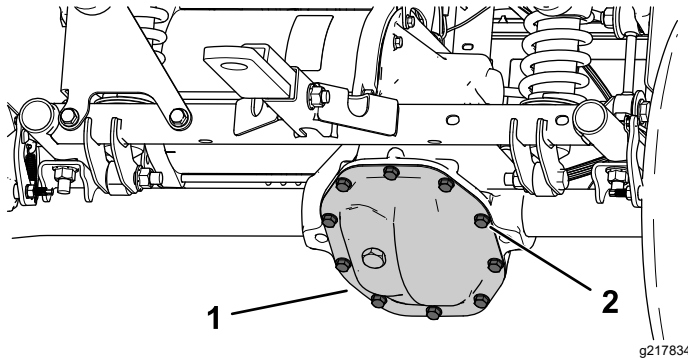

Figure 53
1. Align a drain pan under the transaxle cover (Figure 53).
2. Remove the bolts from the transaxle cover and drain the fluid completely (Figure 53).